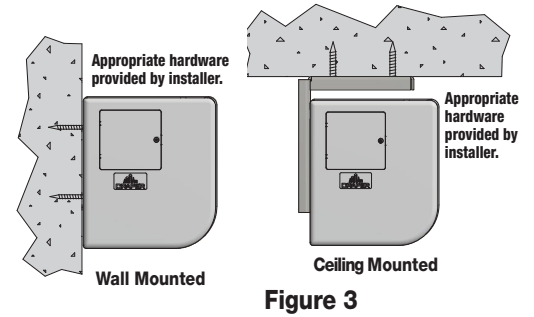

Figure 3
4. Holding the case by the endcaps, lift it up and over the cleats on the **mounting brackets** (see Fig.3). **Wall Bracket Mounting Channels** are shown in Fig. 5 below.